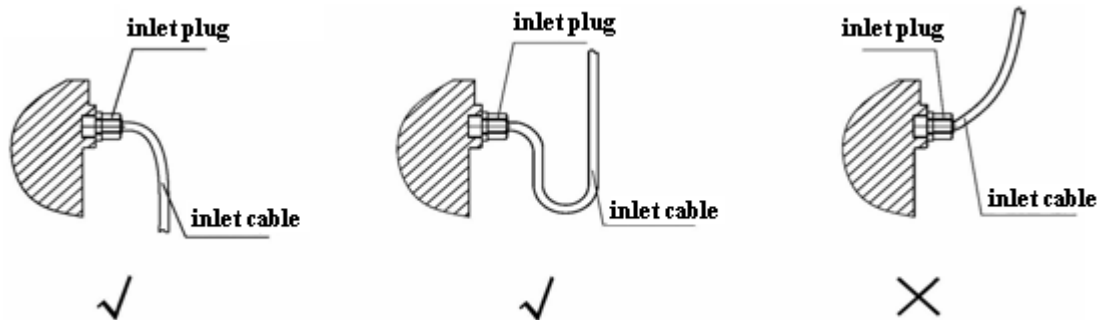

Fig.5
3.3 Cable shall be correctly mounted to prevent rain from going into the electric actuator.(The first two of Fig.5 connection ways are right.)